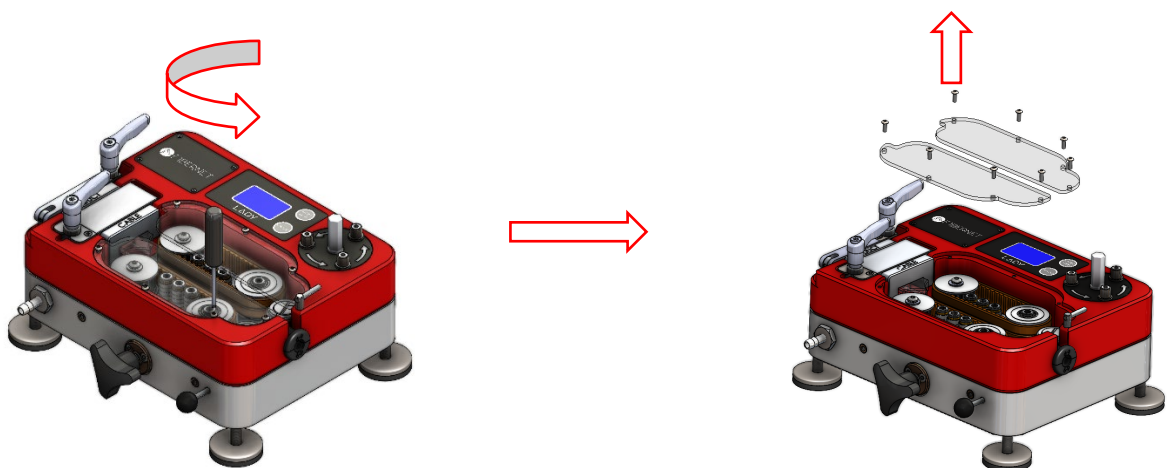

Figure 24: removing the two plexiglass protections.
- Set cable and minitube inside the device, positioning the gaskets with cut facing down, for a better fit, as shown in figure 24.